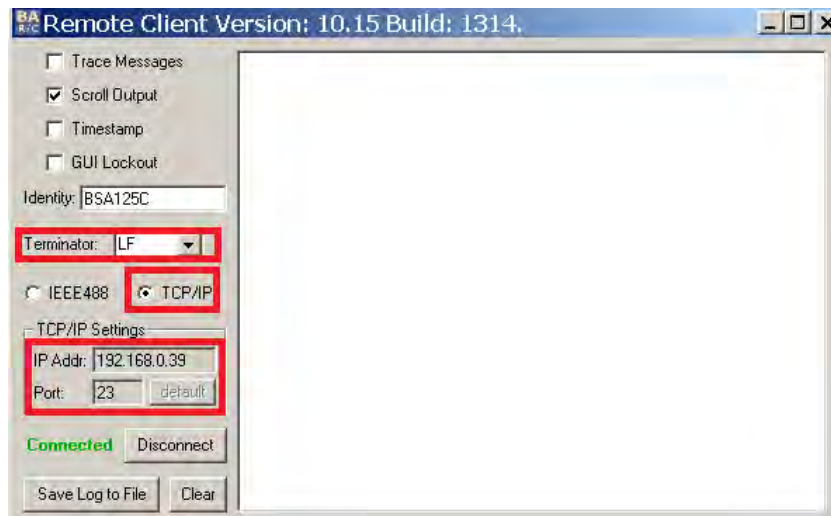

FIGURE 3. REMOTE CLIENT WINDOW
4. Change Terminator to "LF". Press the Connect Button. See Figure 3.